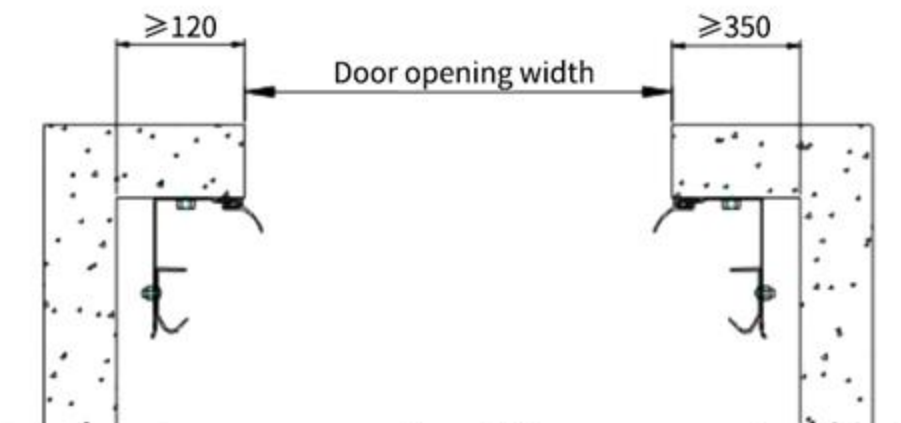

Figure 2-3
2.5 Auxiliary rail fixing: Use expansion bolts or self-tapping screws to fix the auxiliary rail on the wall, and the self-tapping screws or expansion bolts and their nuts must be tightened in place when installing self-tapping screws or expansion bolts and their nuts. (Figure 2-3)
3.1 As shown in Figure 2-3, 3-1, fix the vertical guide rail with the auxiliary rail with M6X12 bolts, and do not lock the M6 nuts for later adjustment.